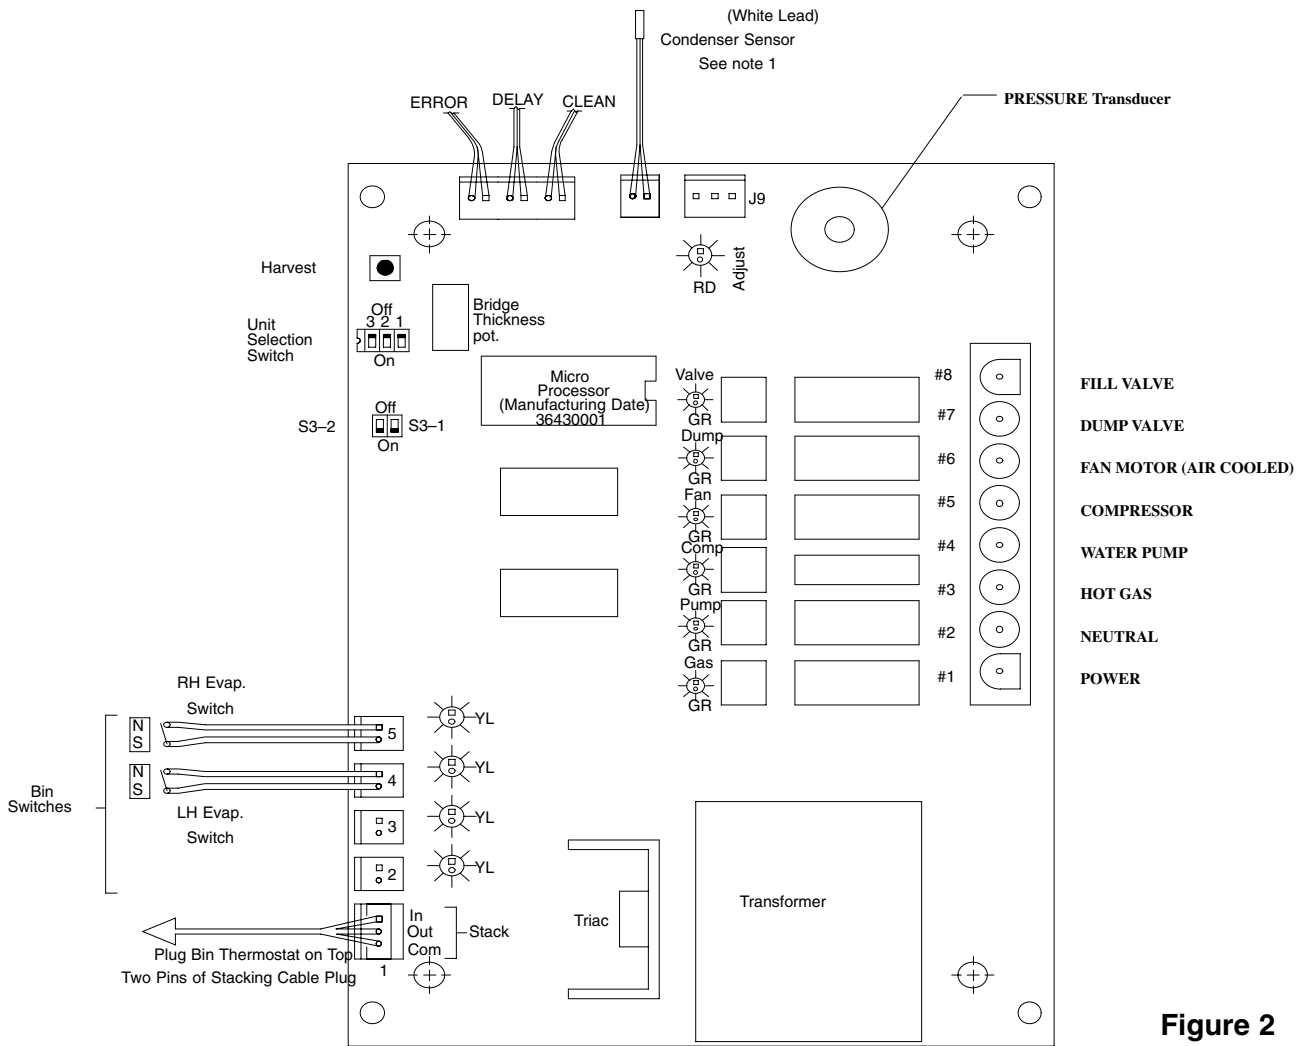

Figure 2
4. Connect the bin thermostat lead to the circuit board (see Figure 2).